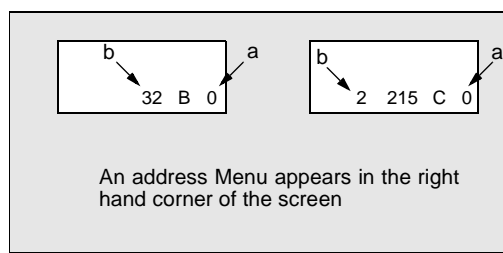

Figure 20. Serviceman Mode Menu Adjustments.
Note: Only the applicable settings for the Receiver serviced will be available (See a in Fig. 20).
1. Press **Channel Up/Down** on the **Remote Control** to select one of the available Service Adjustments (**a** in Fig. 20).
Note: Write Down the original value set (**b** in Fig. 20) for each address before modifying anything. It is easy to erroneously adjust the wrong item.
2. Press **Volume Up/Down** on the **Remote Control** to adjust the level of the selected Service Adjustment (**b** in Fig. 20).
1. Press Channel Up/Down on the Remote Control to select one of the available Service Adjustments (a in Fig. 20).
Note: Write Down the original value set (b in Fig. 20) for each address before modifying anything. It is easy to erroneously adjust the wrong item.
2. Press Volume Up/Down on the Remote Control to adjust the level of the selected Service Adjustment (b in Fig. 20).